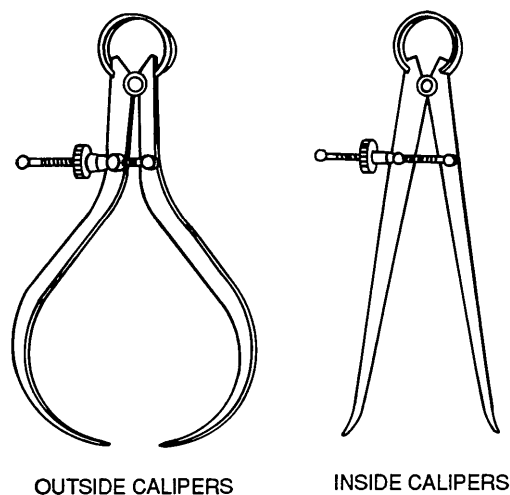

Figure 3-25. Spring-Joint Calipers
(2) **Spring-joint calipers.** The spring-joint calipers have the same type of legs, but are joined by a strong spring hinge, screw, and adjustment nut. They are shown in figure 3-25.